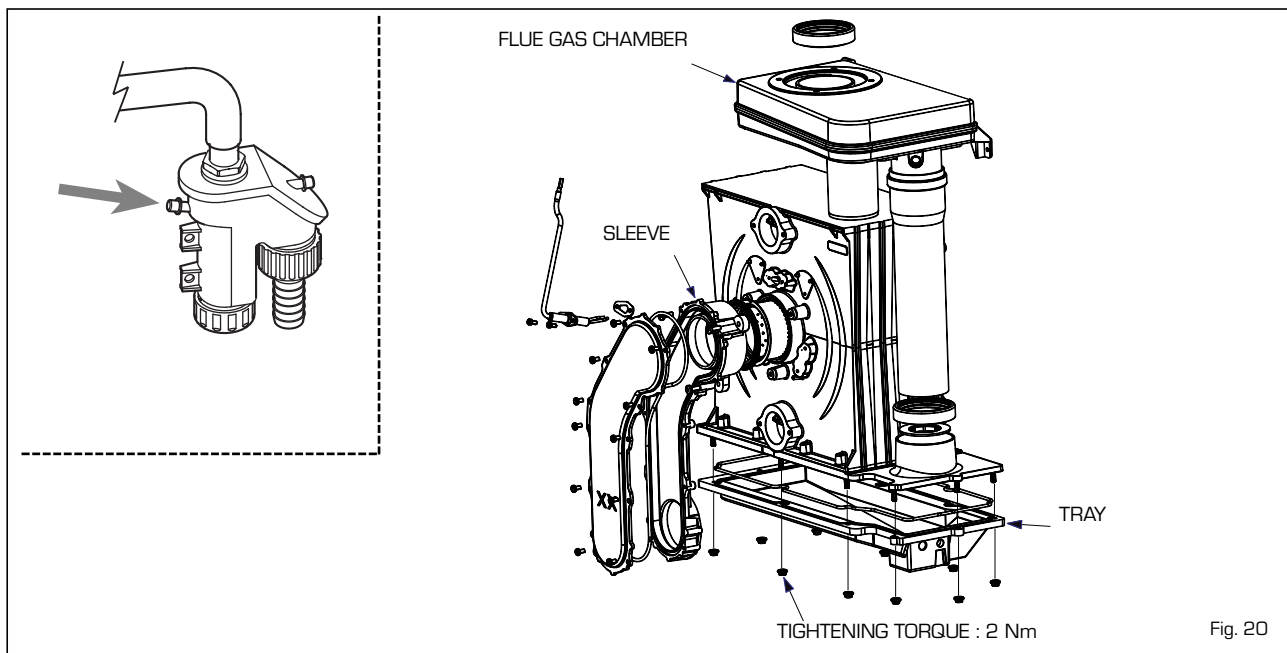

Fig. 20
4.5 MAINTENANCE (fig. 20)
If necessary, the drip plate can be filled using the tap provided (fig. 20).
Instead, to clean the exchanger and the burner, do in the following way (fig. 20):